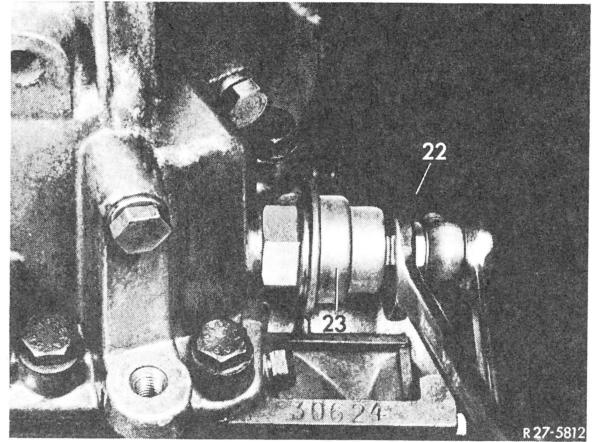

Fig. 9
20 Unscrew vacuum line (22) from vacuum box (23), **while counterholding at hex. head 14 mm width over flats** (Fig. 9).
36 Connect vacuum line (22) to vacuum box (23), **while applying counterhold to hex. head (14 mm width over flats) on vacuum box (Fig. 9).**